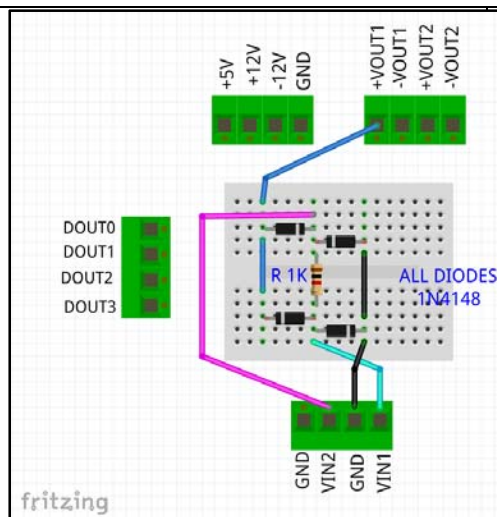
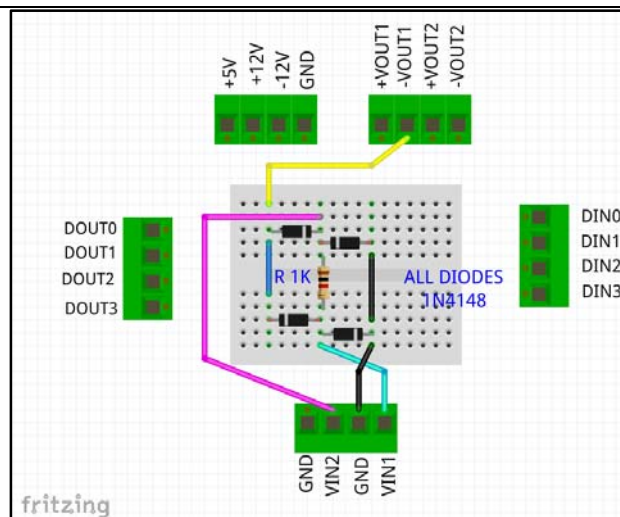

Fig 14. Test Setup (Positive Values)
Fig 15. Test Setup (Negative Values)
3. Using the GUI Feed the simulated Sin-Wave test voltages: 0.0, 2.32, 4.5, 6.36, 7.79, 8.69, 9.0, 8.69, 7.79, 6.36, 4.5, 2.32, 0.00, -2.32, -4.5, -6.36, -7.79, -8.69, -9.0, -8.69, -7.79, -6.36, -4.5, -2.32, and 0.00. Use Vout1 and Test Setup (Fig 14) for positive voltages and -Vout1 (Fig 15) for negative voltages. Save each set of values.
4. Plot the data using the Plot IO (VI) mode.